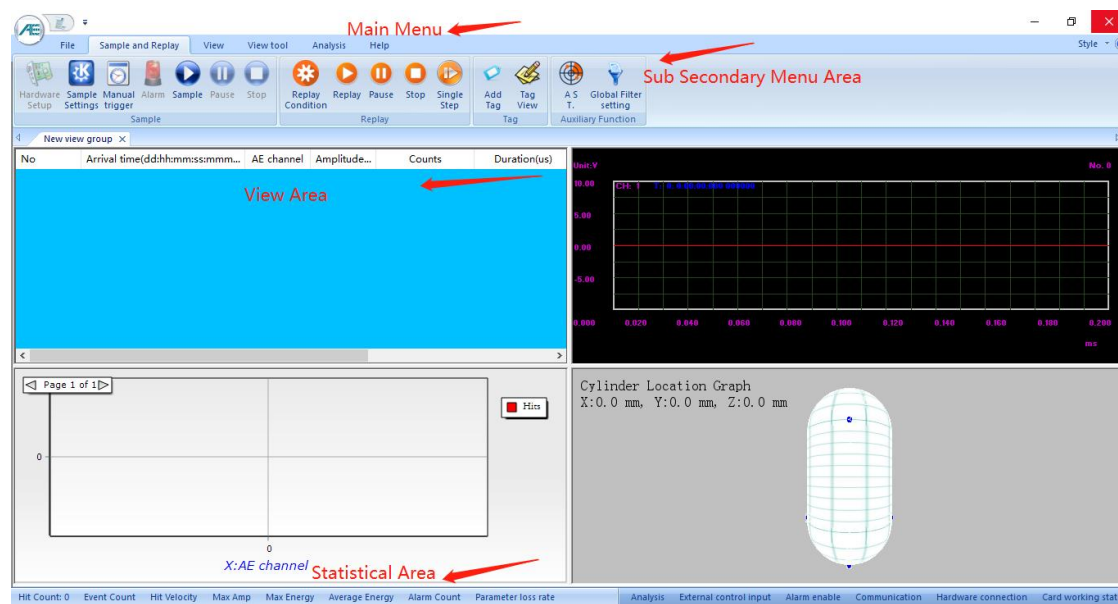

Fig. 2-1 Main Interface View Of Software
- (1) Turn on the computer and enter the windows system desktop. Connect the USB cable from the AE instrument to the computer;
- (2) Double click the [SWAE] icon on the desktop to start the AE application, and then the software will load the default configuration. Refer to Fig. 2-1 for the partition of the software main interface.
- (3) Turn on the U3H instrument.